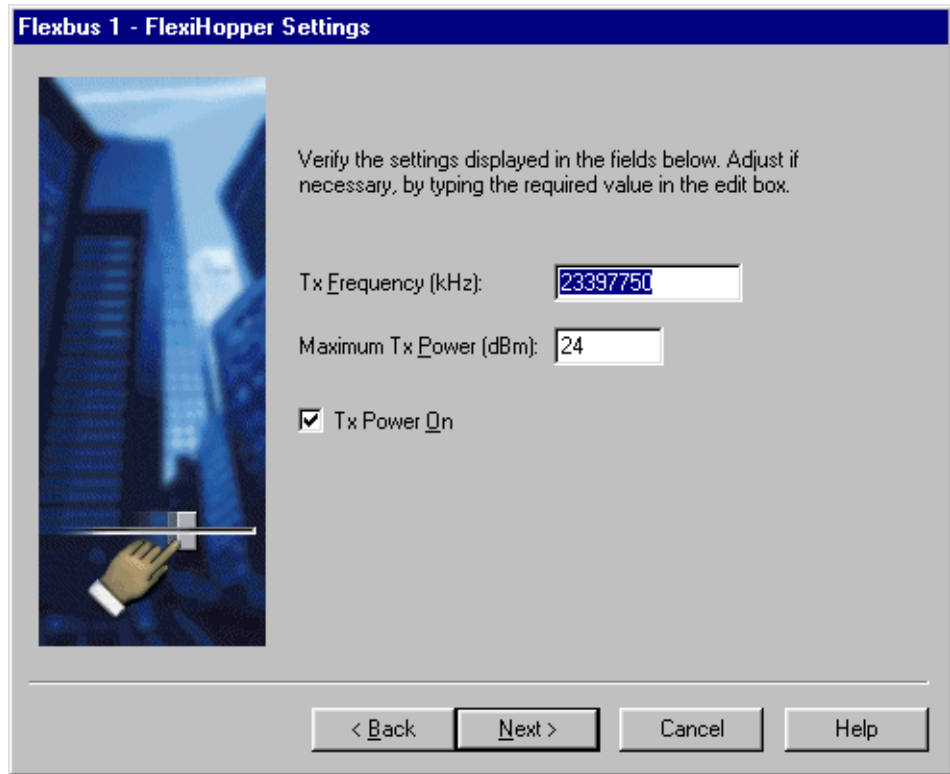

Figure 28. Flexbus 1 settings for the FlexiHopper outdoor unit
2. The *Flexbus 1 - FlexiHopper Settings* page appears on the screen. The options on the page depend on the outdoor unit connected to the interface. The settings for the FlexiHopper outdoor unit are presented in Figure 28.